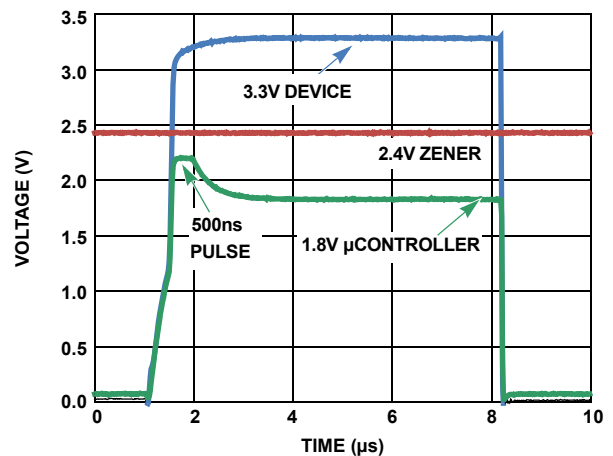

FIGURE 2. 1.8V TO 3.3V LEVEL SHIFTING
3. Providing protection on the 1.8V microcontroller against the potential overcurrent caused by the rise time accelerators on the buffer. A critical concern is the rise time accelerator from the I²C buffer damaging the 1.8V microcontroller. ESD diodes internal to the microcontroller are forward biased at ~0.5V above its supply rail. While the rise time accelerators drive the bus to 2.4V, they are active for only ~500ns (see Figure 2). If overcurrent is a concern, a series resistor on the I²C SDA (Data) and SCL (Clock) lines of 10Ω limits the current to protect the microcontroller. Assuming a worse cast 0V diode conduction, the peak current is limited by the capability of the rise time accelerator circuit on the buffer, in this case 5mA. From a voltage stand-point a 1.8V to 3.3V microcontroller has an absolute maximum voltage in the 3.6V range, much less than the 2.4V from the accelerator drive.